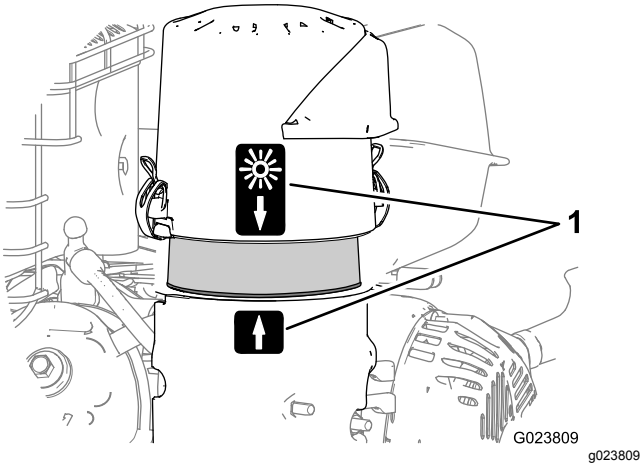

Figure 34
- Align the arrow decal on the air-cleaner cover and the arrow decal on the base (Figure 34).